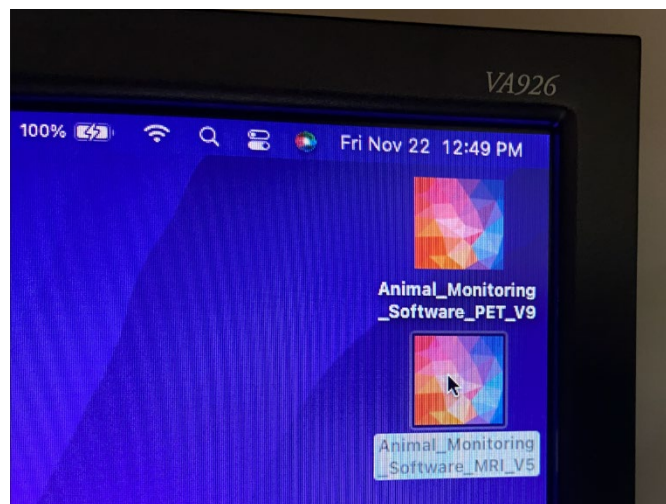

Figure 8
- Once the computer is running, double the icon “Animal_Monitoring_Software_MRI_V5” (Fig 8).